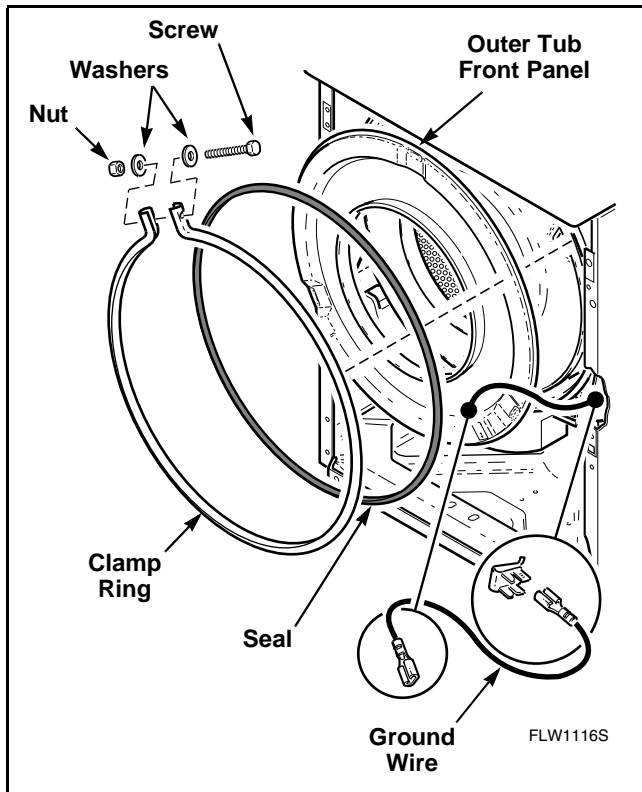

Figure 51
- Disconnect ground wire from outer tub front panel. Refer to *Figure 51*.
- Remove nut, washers and screw holding clamp ring to outer tub front panel. Refer to *Figure 51*.
- n. Disconnect ground wire from outer tub front panel. Refer to *Figure 51*.
- o. Remove nut, washers and screw holding clamp ring to outer tub front panel. Refer to *Figure 51*.